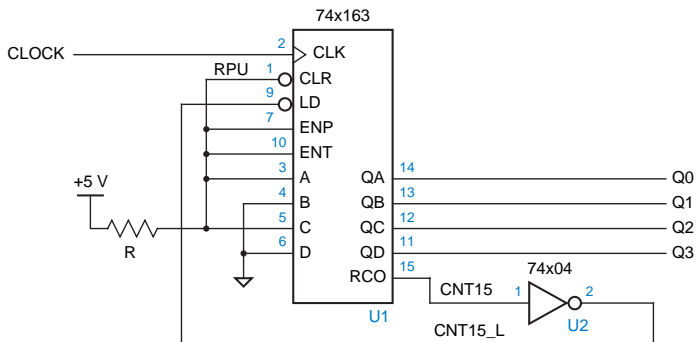

Figure 28: Using the 74x163 as a modulo-11 counter with the counting sequence 5, 6, ..., 15, 5, 6,
- Fig. 28 shows one way of using '163 as a modulo-11 counter